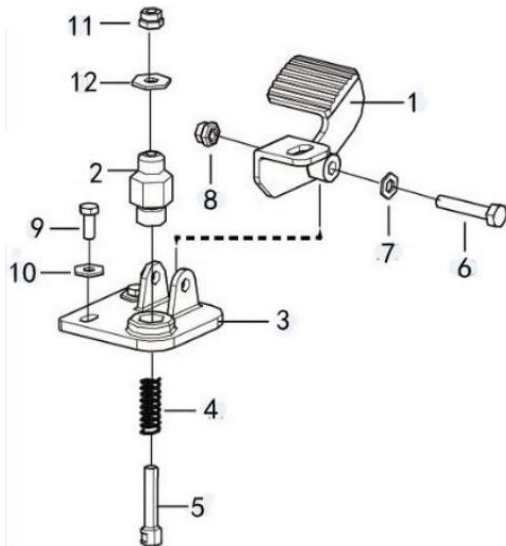

Figure 3.11 Pedal
1. As shown in Fig. 3.11, first remove the parts 11 and 12, then remove the parts 6, 7 and 8 on the pedal, and pull the pedal 1 out of the spring pin 5 and mount 3.
1. As shown in Fig. 3.11, thread the spring 4 and the spring pin 5 through the part 3 and install them into the spring seat 2, and fix the mount 3 on the extended platform with the bolt 9 and the washer 10 and tighten it with a wrench.